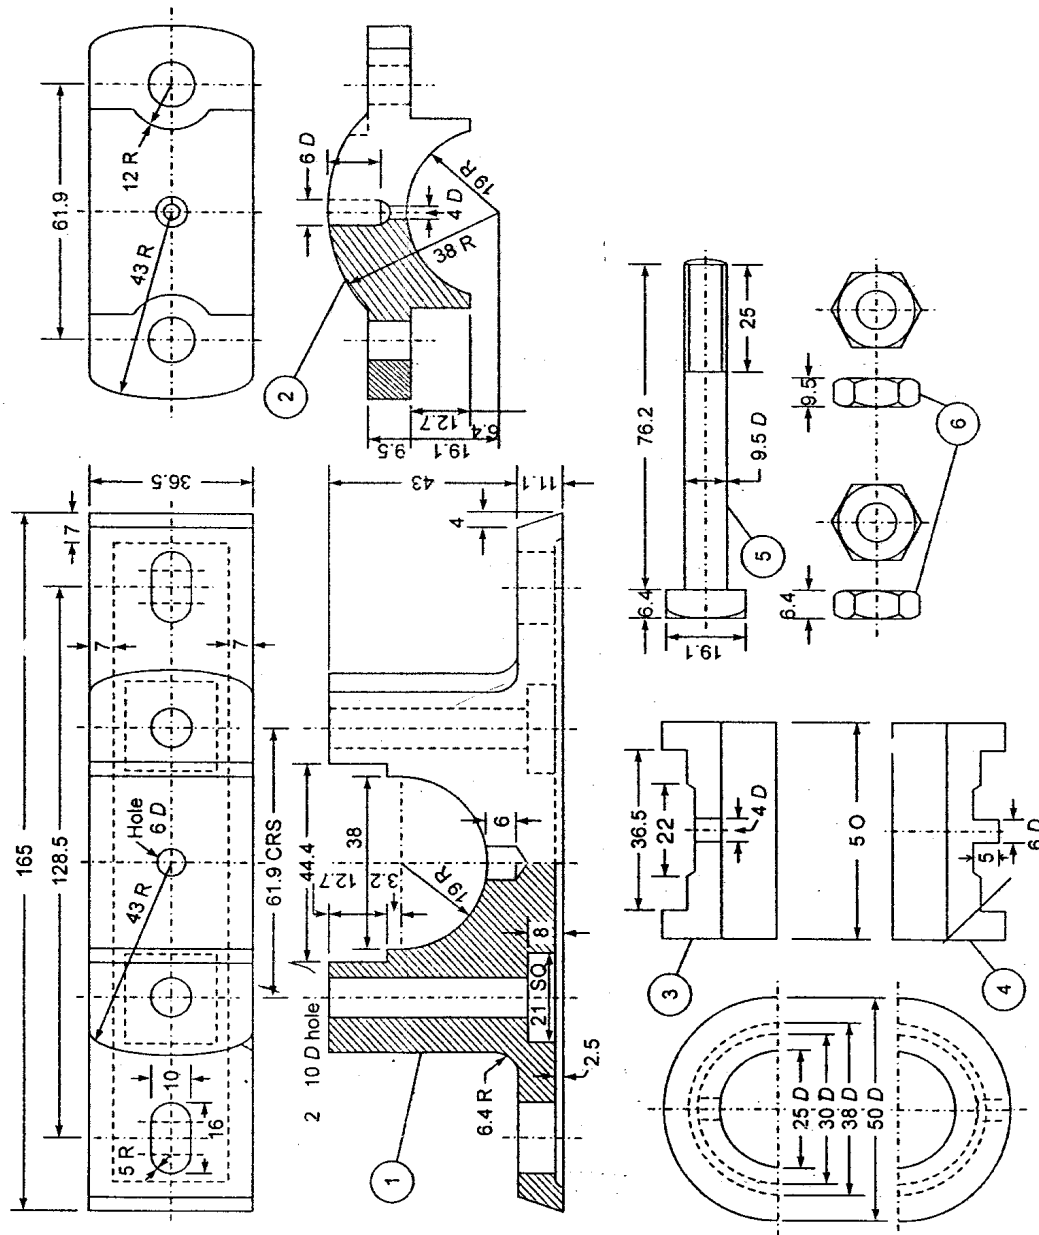

Figure 4:
2. Figure 4 gives the part drawings of Plummer block. The details of the Plummer block are shown below: [50]